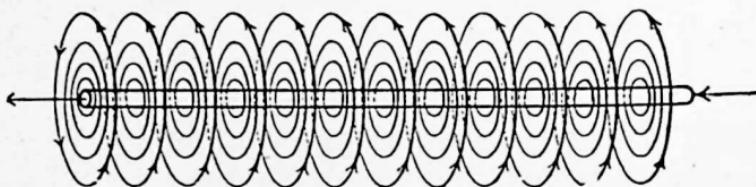

FIG. 132. The magnetic field about a straight wire carrying a current.
65. Field About a Straight Wire. When an electric current flows along a straight conductor, a circular magnetic field is formed around it as shown in Fig. 132.